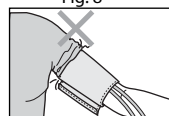

Fig. 9
7. If the rolled-up sleeve squeezes the arm interfering with free blood flow the Device may give inaccurate figures not corresponding to your actual blood pressure (fig. 9).